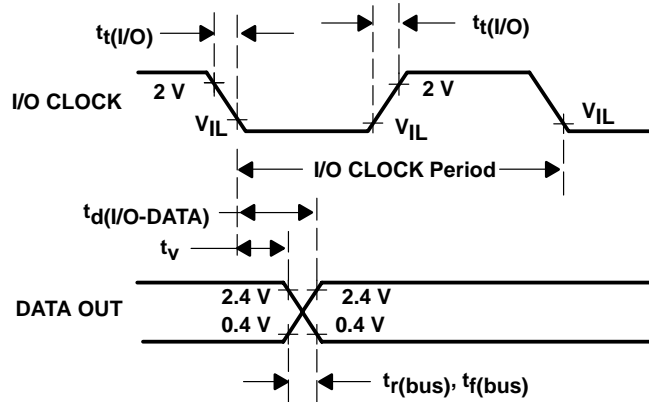

Figure 6. DATA OUT and I/O CLOCK Voltage Waveforms
10. I/O CLOCK period = $1/(\text{I/O CLOCK frequency})$ (see Figure 6).